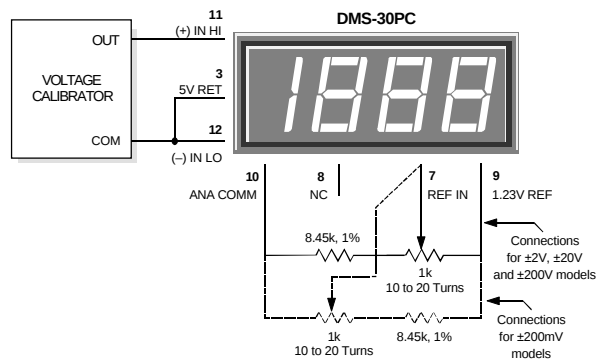

Figure 10. External Gain Adjustment
- 6. Gain Adjust:** There is a gain-adjust potentiometer on the back of each meter. It has approximately ± 50 counts ($\pm 2.5\%$) of adjustment range. Since these devices essentially have no zero/offset errors, a gain adjustment is effectively an overall accuracy adjustment. Though they may be performed at any point (except zero), accuracy adjustments are most effective when performed with higher level input signals. The circuit shown in Figure 10 provides $\pm 10\%$ range of adjustment.
- 8. External Gain Adjustment:** Connect REFERENCE OUT (pin 8) to REFERENCE IN (pin 7) for normal, factory calibrated, operation. Use the +1.23V REFERENCE OUT (pin 9) for applications needing external gain adjustment. Figure 10 shows the wiring configuration for each model. Calibration is performed with a precise, near-full-scale, input voltage.